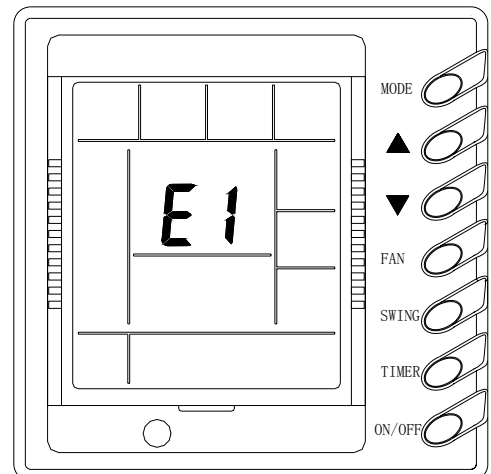

Fig9
8) Malfunction display (fig.9)
❖ When malfunction happened in running, malfunction code will be shown in environmental temp. display zone. Fig.9 indicates that the compressor is operating high pressure protect.